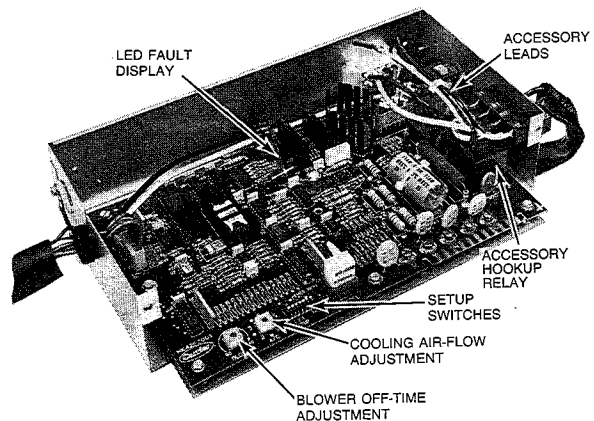
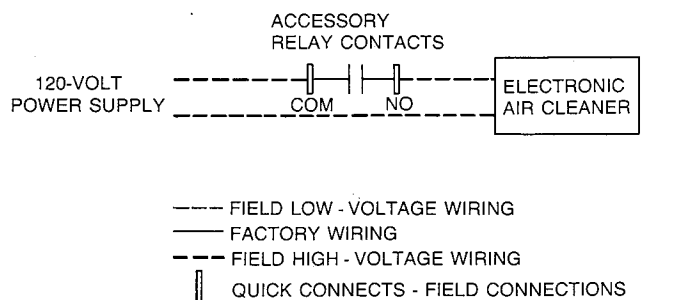

Fig. 11—Microprocessor Control Center
Fig. 12—Electronic Air Cleaner
- Put setup switch No. 2 on microprocessor control board in ON position to provide continuous low-fire operation. See Fig. 11.
- d. Return setup switch No. 2 on microprocessor control board to OFF position and put setup switch No. 3 to ON position to provide continuous high-fire operation. See Fig. 11.
NOTE: Temperature rise can be determined for low-fire operation by placing setup switch No. 2 on microprocessor control board in the ON position. For high-fire operation return setup switch No. 2 to the OFF position and place setup switch No. 3 in the ON position. DO NOT forget to return setup switches to OFF position upon completion. See Fig. 11.
- d. Check to make sure bypass humidifier switch (marked BPH) on microprocessor control board is in ON position when a bypass humidifier has been installed. See Fig. 11.
An isolated set of normally open contacts (not connected to 24VAC or 120VAC) are available to operate any accessory such as an electronic air cleaner or humidifier. The relay contact will close whenever the blower motor is operating. These contacts are accessible by two 1/4-in. quick-connects mounted directly on the relay as shown in Fig. 11. Wire leads with quick-connects have been supplied as part of the control box wiring to simplify hookup per the three possible combinations shown in Fig. 12, 13, or 14.
4. Snip wire tie that surrounds accessory hookup leads shown in Fig. 11.
NOTE: For 120-volt accessory hookup, see steps 5 thru 11 and Fig. 12 or 13.
NOTE: If a bypass humidifier is used, bypass humidifier switch on the microprocessor control board must be put in ON position to increase the low-heat blower motor speed. This prevents nuisance limit trips caused by the increase in return-air temperature caused by the bypass from the humidifier. See Fig. 11 for location of BPH setup switch.
For proper furnace operation, follow the installation, startup, and adjustment instructions provided by the modulating damper system manufacturer. In addition, the multi-zone switch (labeled MZ on the microprocessor control board) must be put in the ON position so that the microprocessor can vary the blower speed to compensate for dampers that may have modulated closed during any given heating or cooling cycle. See Fig. 11 for location of multi-zone switch setup MZ.
This furnace has an LED display to aid the homeowner or service technician, while observing the furnace. See Fig. 11. The display can be seen through the view port provided in the blower door. To decipher the meaning of the display, refer to Fig. 15 or the fault code label on the inside of the control access door.